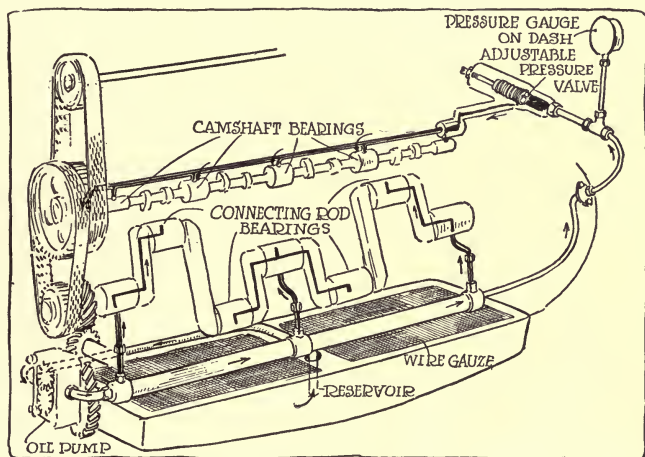

FIG. 123.—Cadillac forced feed oiling system.
82. Full Forced Feed System.—A full forced feed as used on the Cadillac Eight is shown in Fig. 123. A gear pump located at the forward end of the motor and driven from the crank shaft takes the oil up from the oil pan in the lower part of the crank case and forces it through a reservoir pipe running along the inside of the crank case, from which pipe there are leads to each of the main bearings. The crank shaft and webs are drilled and oil is forced from these main bearings to the connecting rod bearings through the drilled holes. The forward and rear bearings supply the rod bearings nearest them, while the center bearing